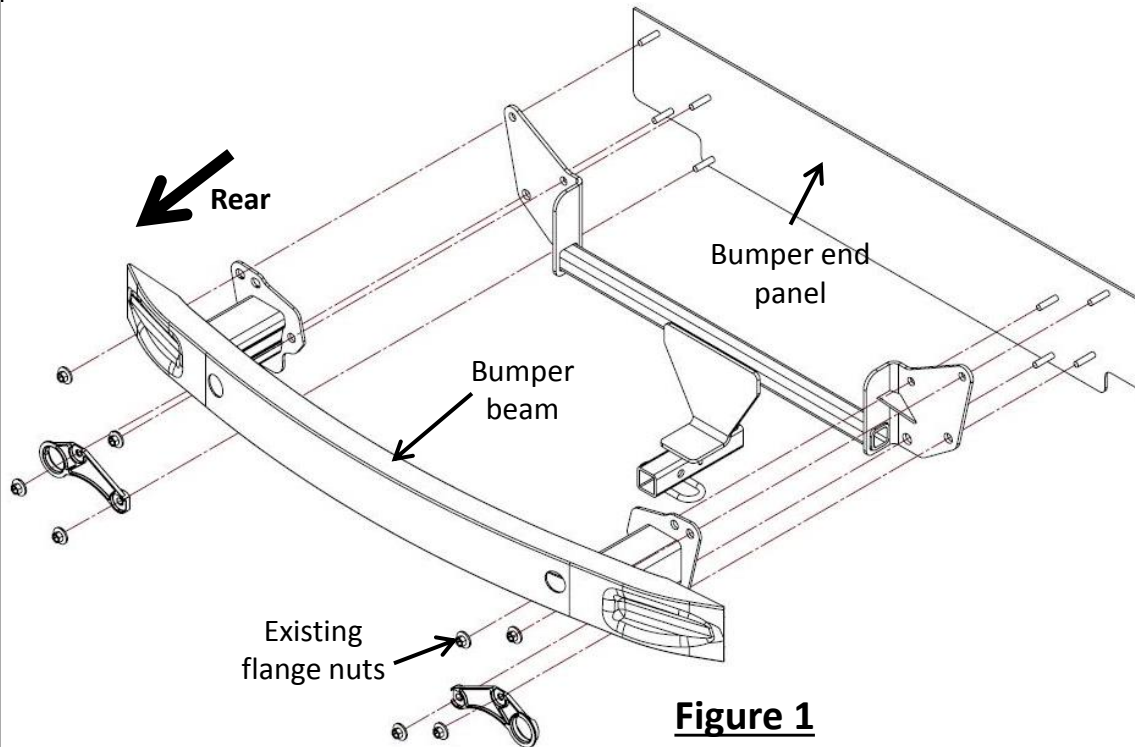

Figure 1
4. Hitch installation – raise the hitch and align the attachment holes on hitch with studs on the end panel. Raise the bumper beam and sandwich the hitch, re-align the exhaust bracket with the 2 lower studs. see Figure 1. Reuse the flange nuts and loosely fasten them.
Hitch installation – raise the hitch and align the attachment holes on hitch with studs on the end panel. Raise the bumper beam and sandwich the hitch, re-align the exhaust bracket with the 2 lower studs. see Figure 1. Reuse the flange nuts and loosely fasten them.